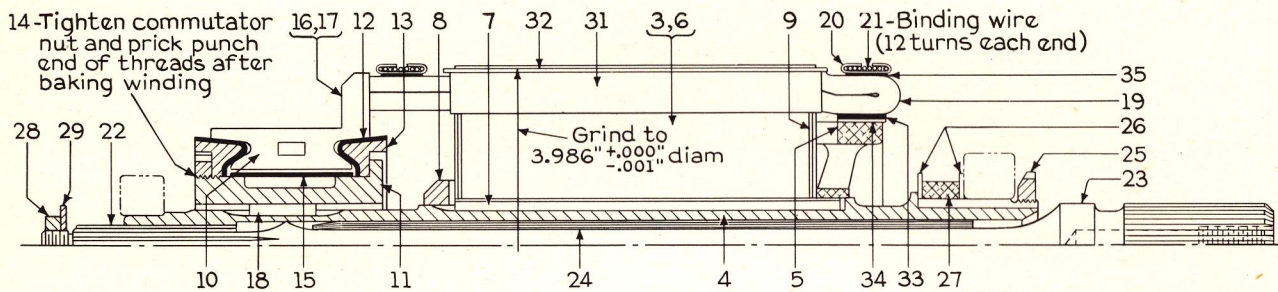

Fig. 7. Ref. 2 Assembly of Armature
a. The field (74) consists mainly of a field frame and field windings. The field windings include a shunt-wound main winding (87), a compensating winding (88), and a commutating winding (89). The field also includes the leads (120 and 125) and the connector (119).
3. ARMATURE ASSEMBLY (See Fig. 7)
a. The armature (2) consists of the following parts: An armature core (3), a commutator (10), armature winding (19) with necessary insulation, binding wire (21) and an outer shaft (4). The armature core is composed of a stack of punchings (6), built up on an outer shaft (4) and held tightly in place by a shrink collar (8). The inner shaft (22) is slender and is separated from the outer shaft by an asbestos wrapping (24). This type of shaft construction is especially adapted for transmitting the pulsating torque of the aircraft engine to the rotor of the generator.
a. Remove the air-blast cover (139) and the bushing (161) on the commutator end of the shaft. It is suggested that a wooden V-block be used to support the generator during disassembly, overhaul, and reassembly.
c. Remove the brush (42) from the brush holder by holding the brush spring with a small hook made of stiff wire. Care should be taken that the spring is not given a permanent set. Mark the brushes so that they can be reassembled in their original positions.
d. Remove the four screws (168) holding the ball bearing retaining plate (136).
e. Check the location paint marks indicating inductive neutral brush position. If the marks are illegible, replace them before disassembly. Remove the three screws (166) from end of end shield. Do not lose special lugs (165). Remove the six screws (171) which hold end shield (40) to field assembly (74). Gently tap the commutator end shield to free it from the field frame, and withdraw it from the armature (2). Use a rawhide mallet or similar tool for tapping. Do not use metal pries which will injure the machined surfaces of the castings.
f. Remove screws (171) from the mounting flange (70) which hold the mounting flange (71) to the field assembly. Gently tap the mounting flange to free it from the field frame, and carefully remove the mounting flange together with the armature from the field. Use a rawhide mallet or similar tool for tapping.
g. To remove the mounting flange from the armature, clamp the core section of the armature in a padded vise and gently tap the mounting flange. The grease seal will come off with the flange. It will probably not be necessary to replace the metal grease seal. If, however, it is necessary, remove the three screws (73) and pull out the grease seal (72).
a. Armature (See Fig. 7)